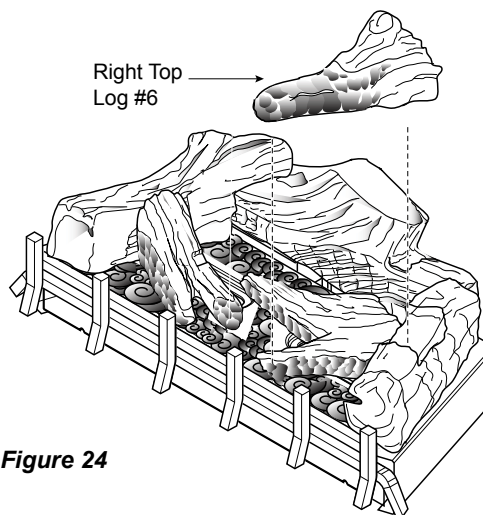

**Figure 24**
9. Place one end of right top log #6 on cutout of right base log. Align opposite end on right center log. *Figure 24*